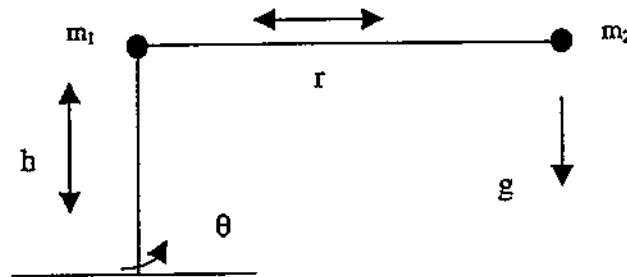

Figure 6. A 3DOF RPP Robot.
6. A 3-DOF RPP robot is shown in Figure 6. Assume the inertia of the base link is J , the masses of links 2 and 3 are concentrated at the ends of the links. Derive the dynamic model of the robot (20 points).